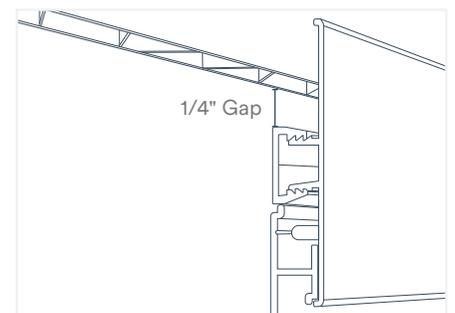

Fig. 37
1. Position the U Channel base to ensure that when the H Channel Snap-In is inserted in place, the lip at the outer edge of the H Channel Snap-In aligns with the top row groove of the SlatWall panel (Fig. 37). When fastening the U Channel base to the wall, leave a gap of approximately 1/4" between the U Channel base and the Wall&CeilingBoard installed above the SlatWall area. [\[Watch How\]](#)